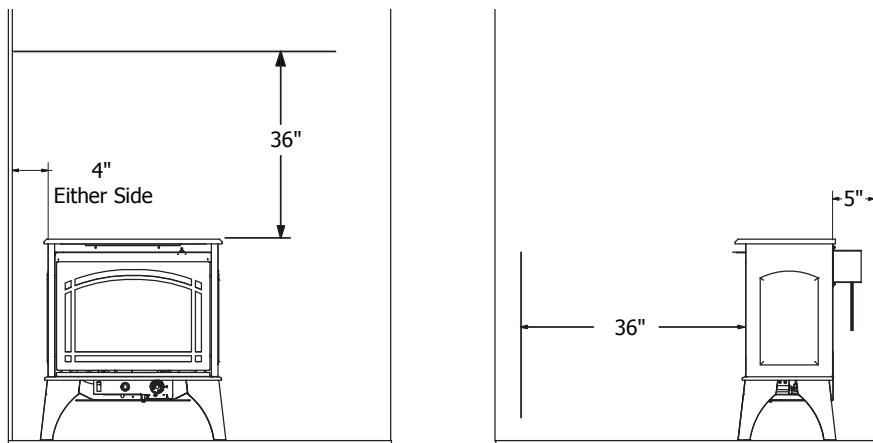

Fig. 3 - Minimum Clearance to Combustible Material
IMPORTANT: Maintain the minimum clearances shown in Figure 3 on page 12. If you can, provide greater clearances from floor, ceiling and joining wall.
- A. Clearances from the side of the heater cabinet to any combustible material and wall should follow the diagram in Figure 3.